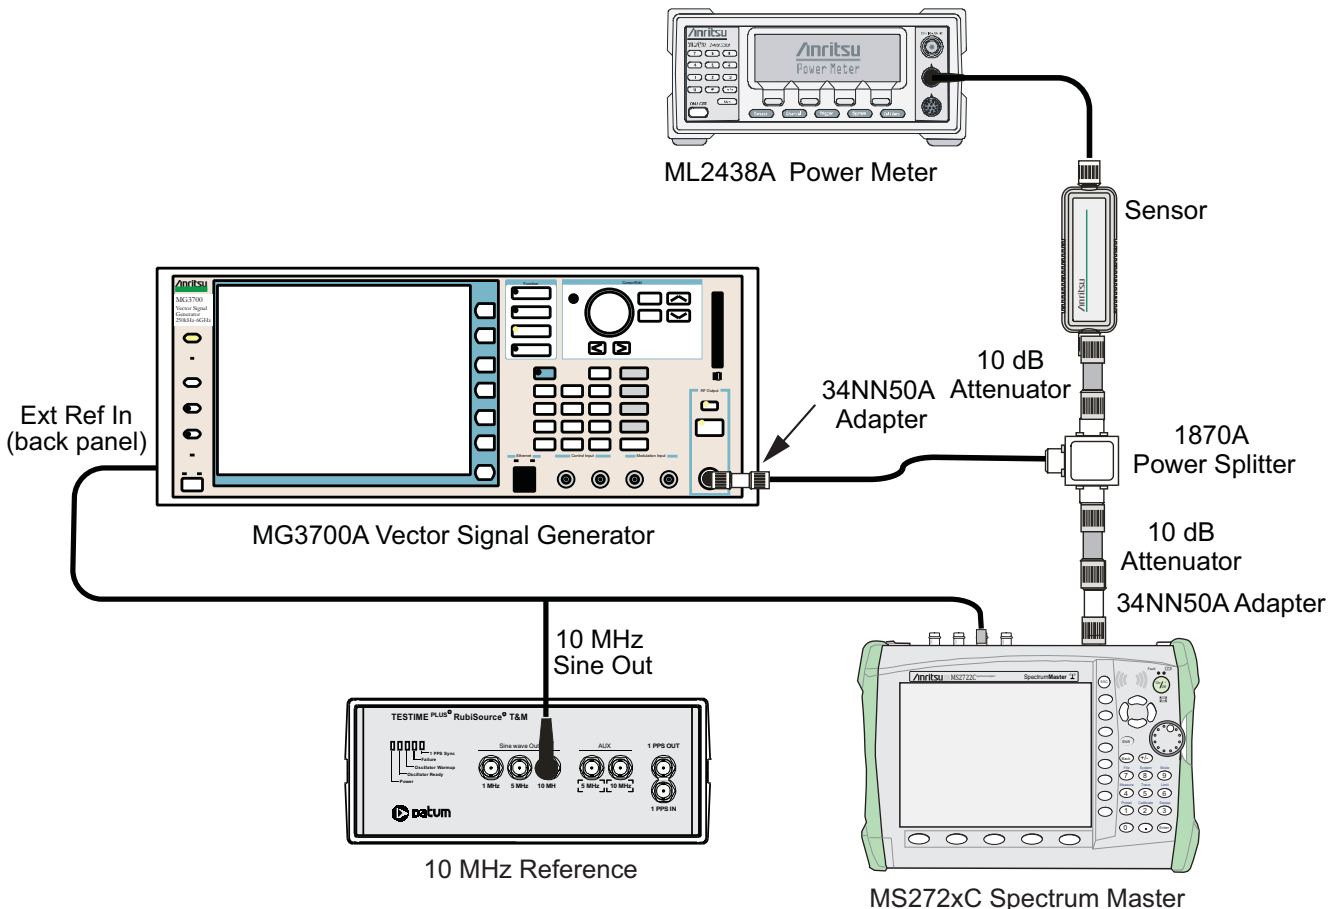

Figure 3-7. Fixed WiMAX Signal Analyzer, Test Setup
4. Connect the Power Sensor, 1870A splitter, and 10 dB attenuators (quantity 2) as shown in Figure 3-7.
4. Connect the Power Sensor, 1870A splitter, and 10 dB attenuators as shown in Figure 3-7.